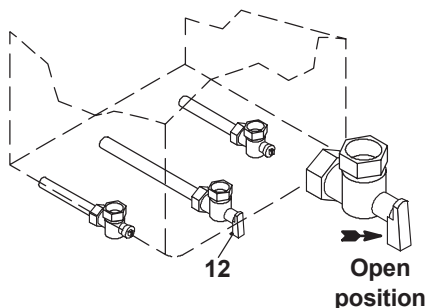

Fig. 7.1
- Open the gas cock 12 (Fig. 7.1) on the appliance and check the gas connector on the